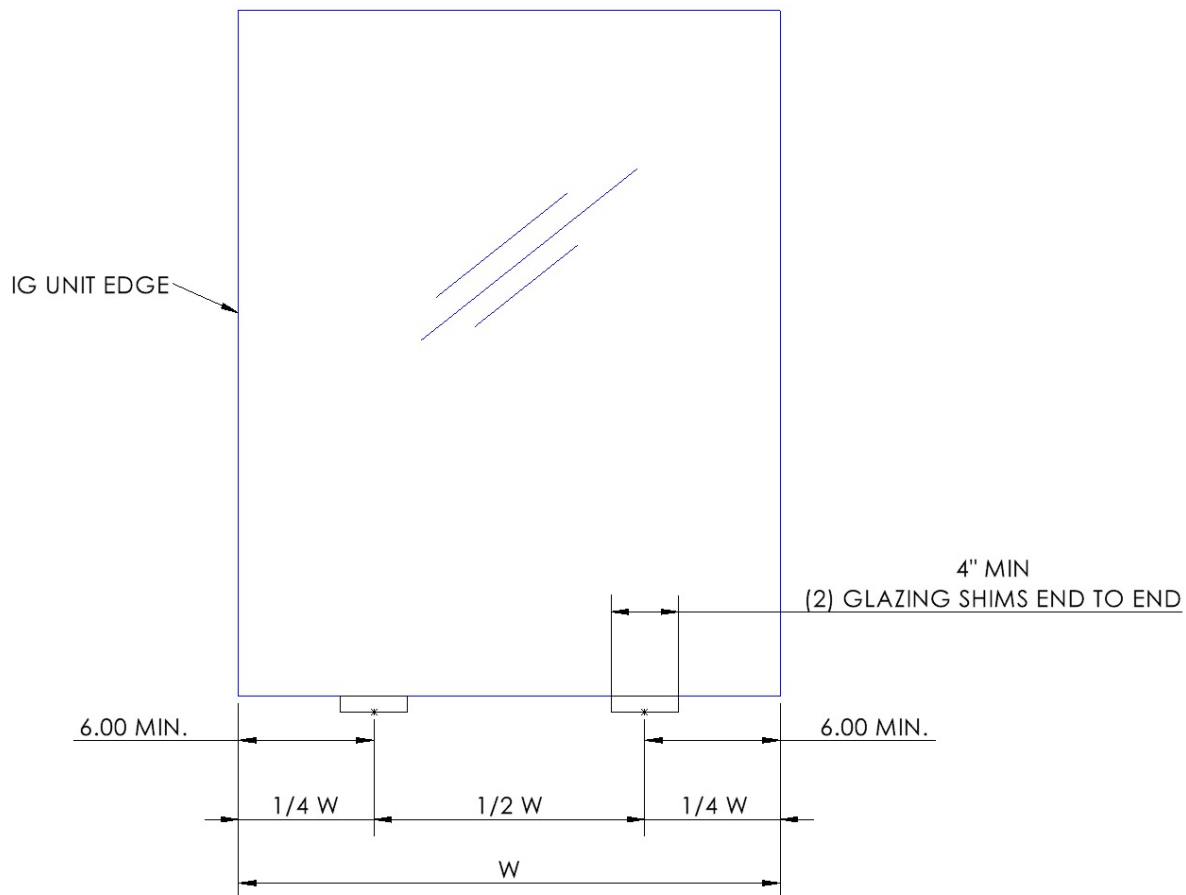

Figure 20
15. Set the Insulated Glass on two (2) pairs of setting blocks positioned at  $1/4$  points in opening as shown in Figure 20. Setting blocks are not to be placed closer than 6" from the edge of glass.